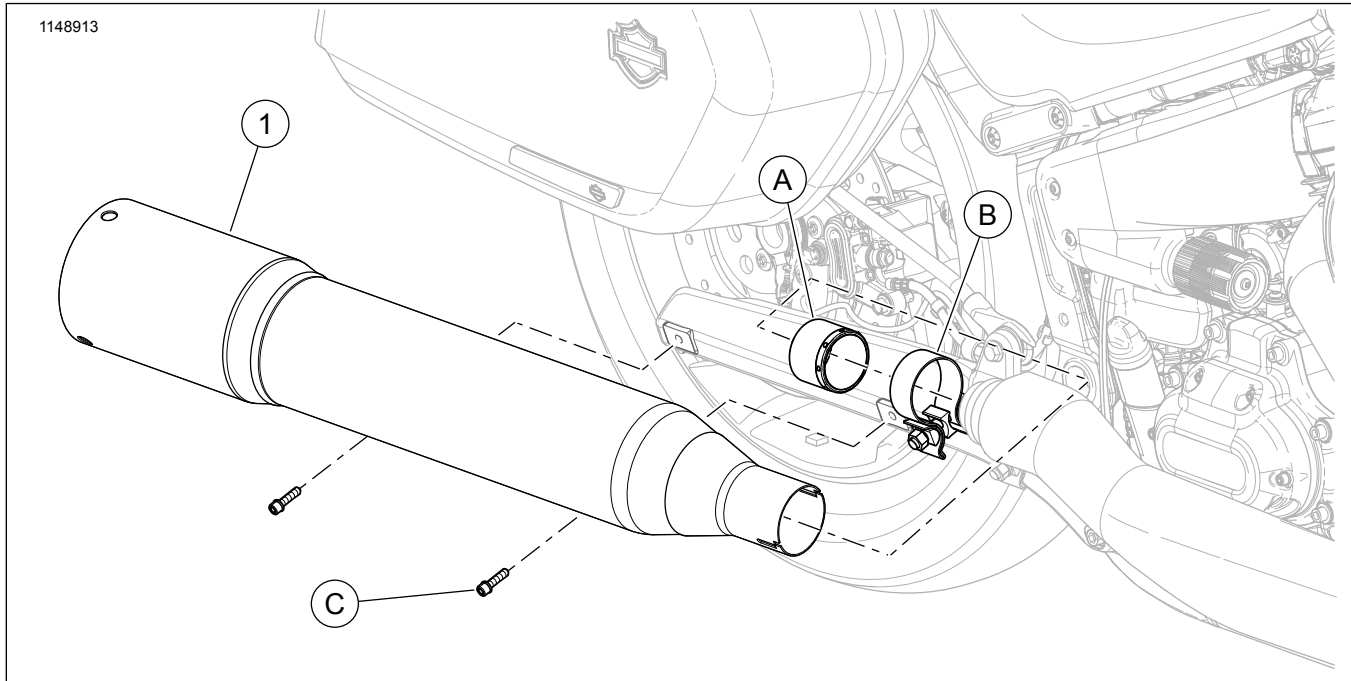

Figure 1. MUFFLER
3. See Figure 1. Loosen the muffler clamp. Note the orientation of the clamp bolt.
4. **Kits 64901190, 649001191:** Remove O2 sensors from Original Equipment (OE) mufflers. See service manual.
5. Remove and retain the muffler mount screws (C) and lock washers.
6. Remove the muffler (1) and discard the muffler clamp (B) and gasket (A).